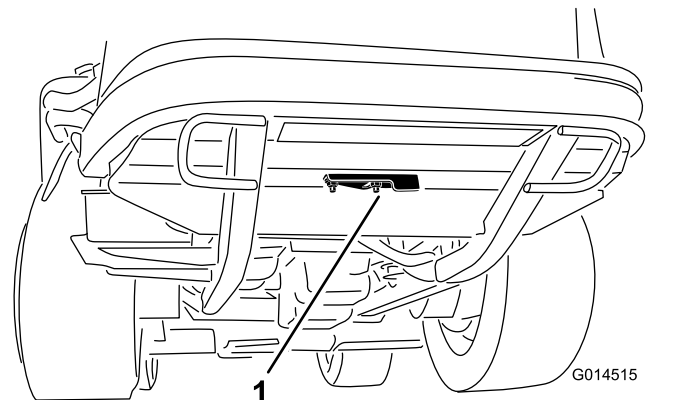

Figure 45
2. Loosen the flange nut securing the clean-out cover to the underside of the rear frame (Figure 45). Rotate the cover to the side to expose the clean-out hole in the frame.